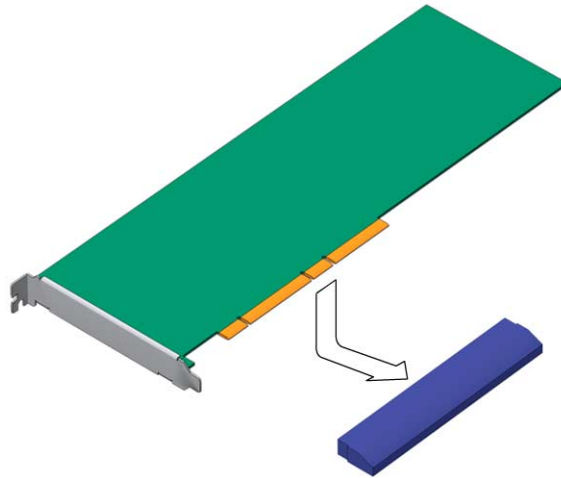

FIGURE 3-66 Installing the PCI-X Card Into the PCI Tray
5. Lower the PCI-X card into position on the PCI tray, then slide it to the right to seat it into the connector (FIGURE 3-66).